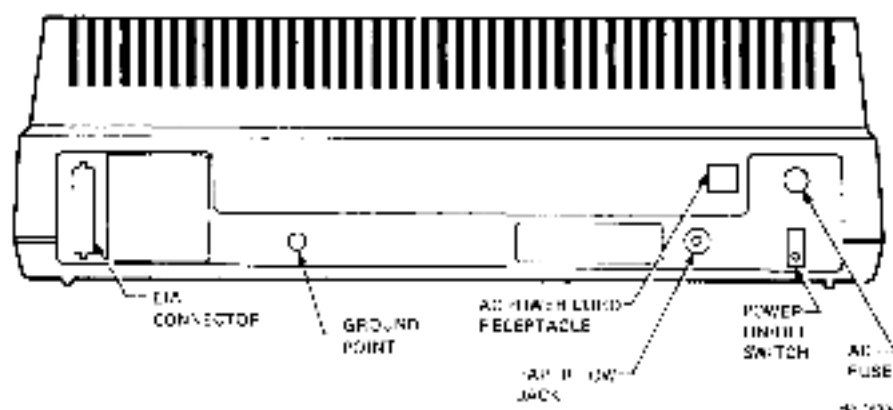

Figure 2-10 LA34VA Graphics Printer (Rear View)
2. Plug the other cable connector into the the EIA connector on the rear of the LA34VA graphics printer. This connector can only plug in one way (Figure 2-10).